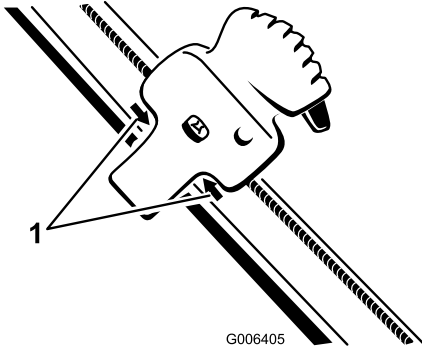

Figure 41
2. Position the Quick Shoot control between the two arrows located on the right hand side of the upper handle (Figure 41).